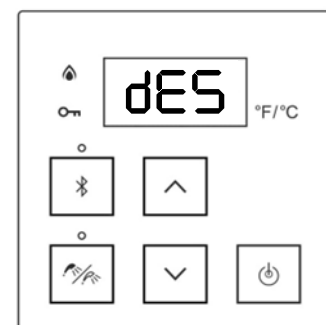

Figure 76
11. Press the "B" button for 1 second and release when display shows "dES" (descaling) (Figure 76). Push the "A" button. "dES" starts blinking.